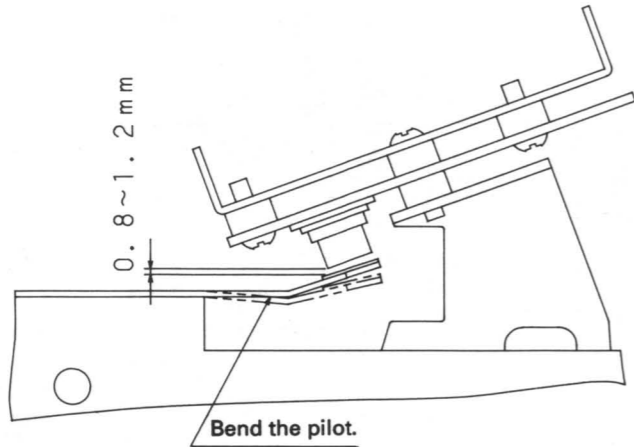

Fig. 3
- a) Key tilt adjustment (Fig. 3)